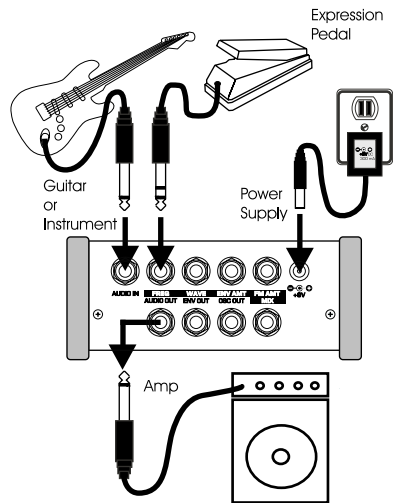

Figure 1 - Basic Connections
**2) Connections:** Connect your instrument to the FreqBox AUDIO INPUT. Connect the AUDIO OUTPUT of the FreqBox to your amp. Connect your Expression Pedal (such as the Moog EP-1 or EP-2) to the FREQ input (see figure 1). ***An expression pedal is highly recommended, especially for using the FreqBox with a guitar.***